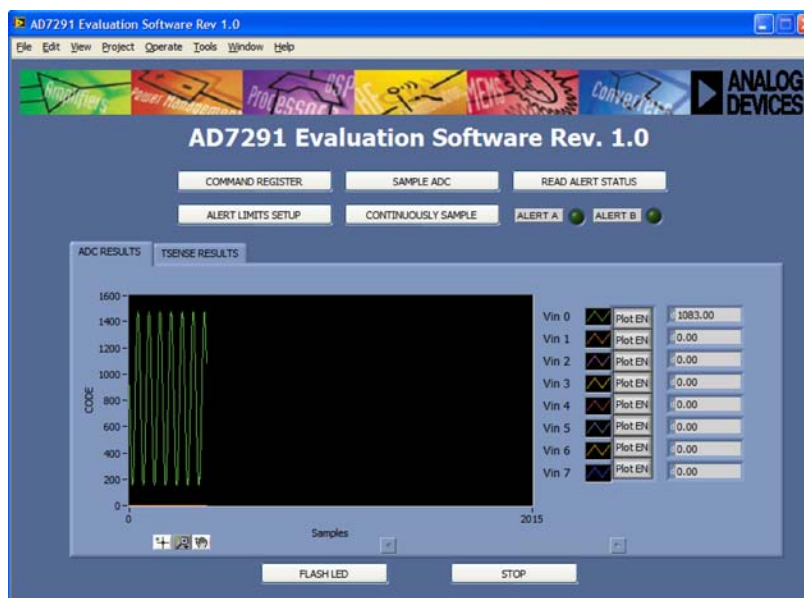

Figure 3. Main Window
1. From the **Start** menu, select **Analog Devices – AD7291 > AD7291 Evaluation Software**. The main window of the software is displayed (see Figure 3).